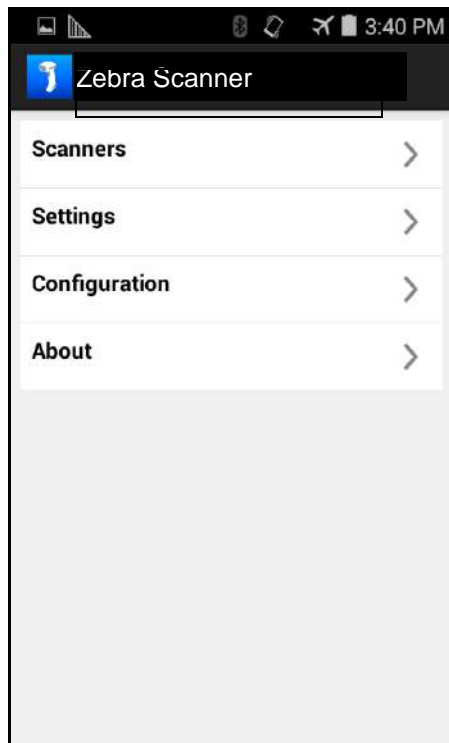

Figure 6-1 Home Screen
5. Touch the *Zebra Scanner Control for Android* icon () on the mobile device to launch the *Home* screen (Figure 6-1).
To display the *Scanners* screen touch *Scanners* from the *Home* screen (Figure 6-1). The *Scanners* screen displays all scanners paired and connected to the mobile device. Select a device in the list to display the *Active Scanner* screen (see Active Scanner Screen on page 6-6). If no scanners were previously paired/connected, to the mobile device, a connection is required (see Connecting the Mobile Device and the Scanner).
2. Touch *Scanners* from the *Home* screen (Figure 6-1). The following screen displays.
To display the *Settings* screen touch *Settings* from the *Home* screen (Figure 6-1).
To display the *Scanner Configurations* screen touch *Configuration* from the *Home* screen (Figure 6-1).
To display the *About* screen touch *About* from the *Home* screen (Figure 6-1).